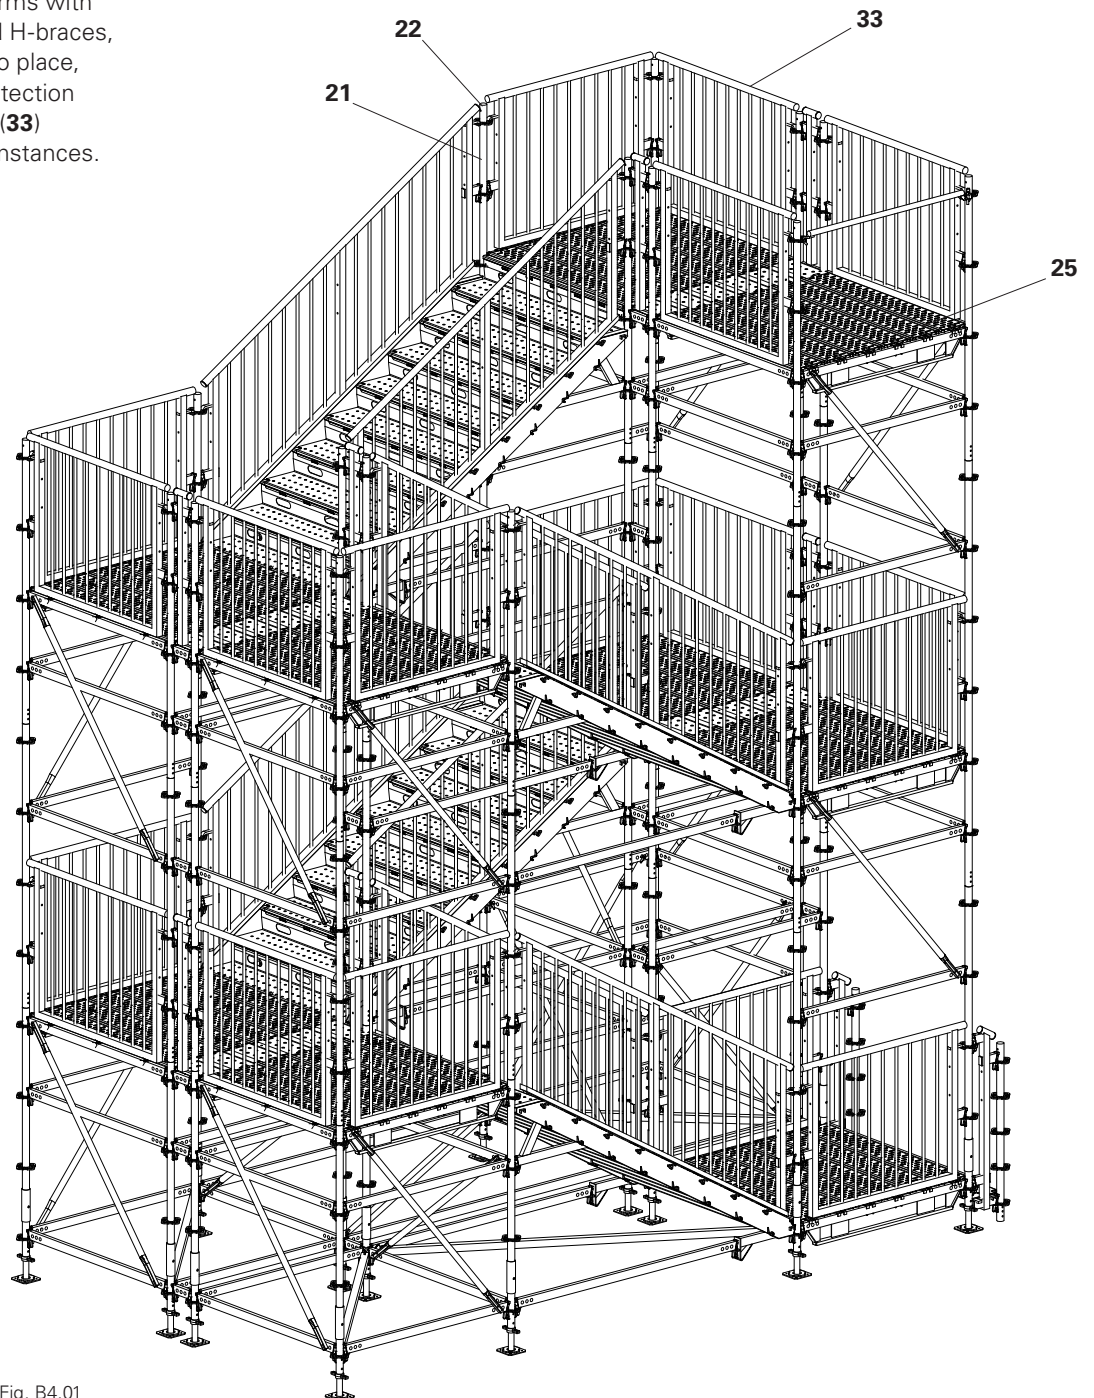

Fig. B4.01
- Complete the lateral protection with Guardrail PPG 150 **(33)** depending on the circumstances. (Fig. B4.01)